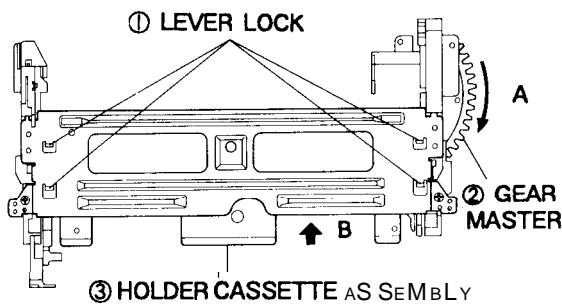

Fig. 66 How to operate the Housing Ass'y
- 1) Push four(4) Lever Locks ① of the housing ass'y Simultaneously. (Refer to Fig. 66)
- 2) Push the holder cassette ass'y @toward arrow "B" while turning the gear master ② toward arrow 'A'. (Refer to Fig. 66)
- 3) Load the gear loading L, R ass'y ④, ⑤ to the middle position of guide rail by turning the gear master ② toward arrow "A". (Refer to Fig. 66, 67)